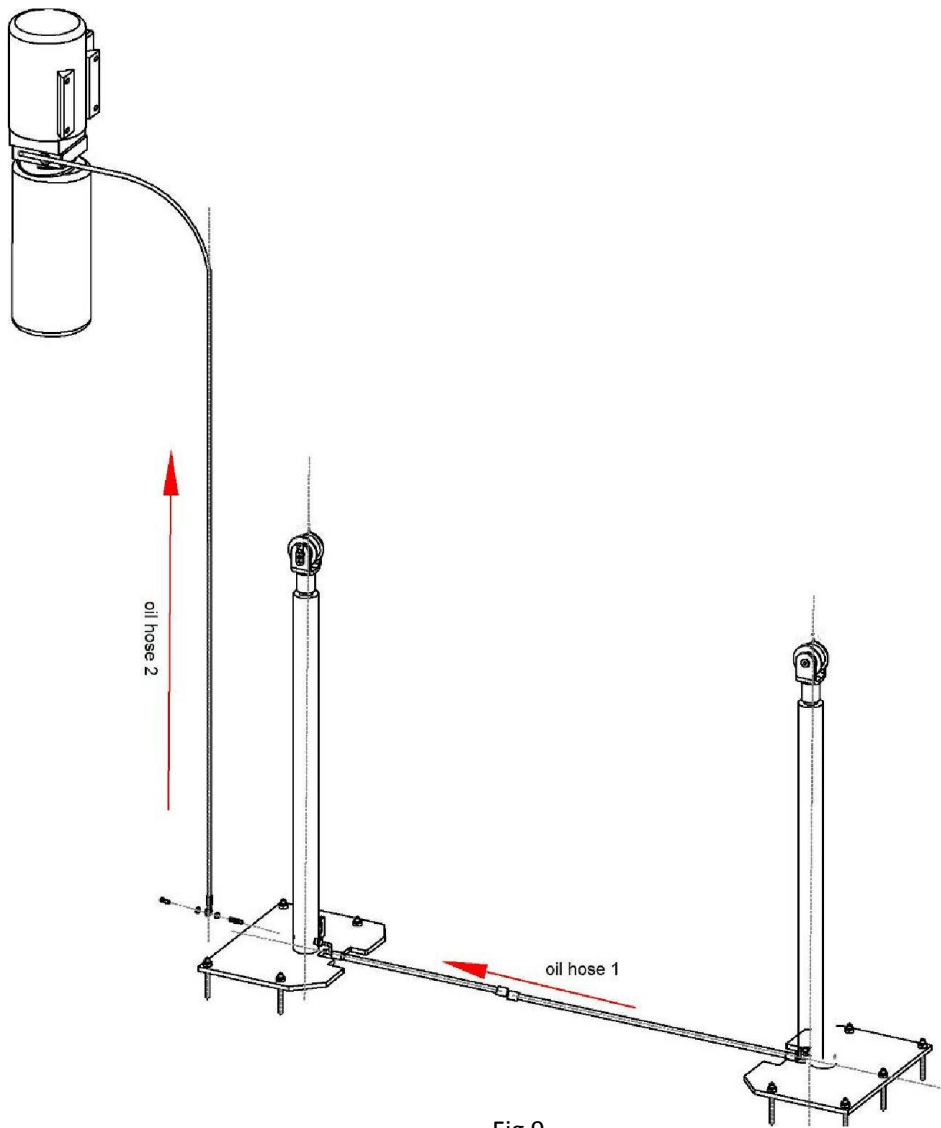

Fig 9
Step8: Connect oil hoses. (Fig 9)